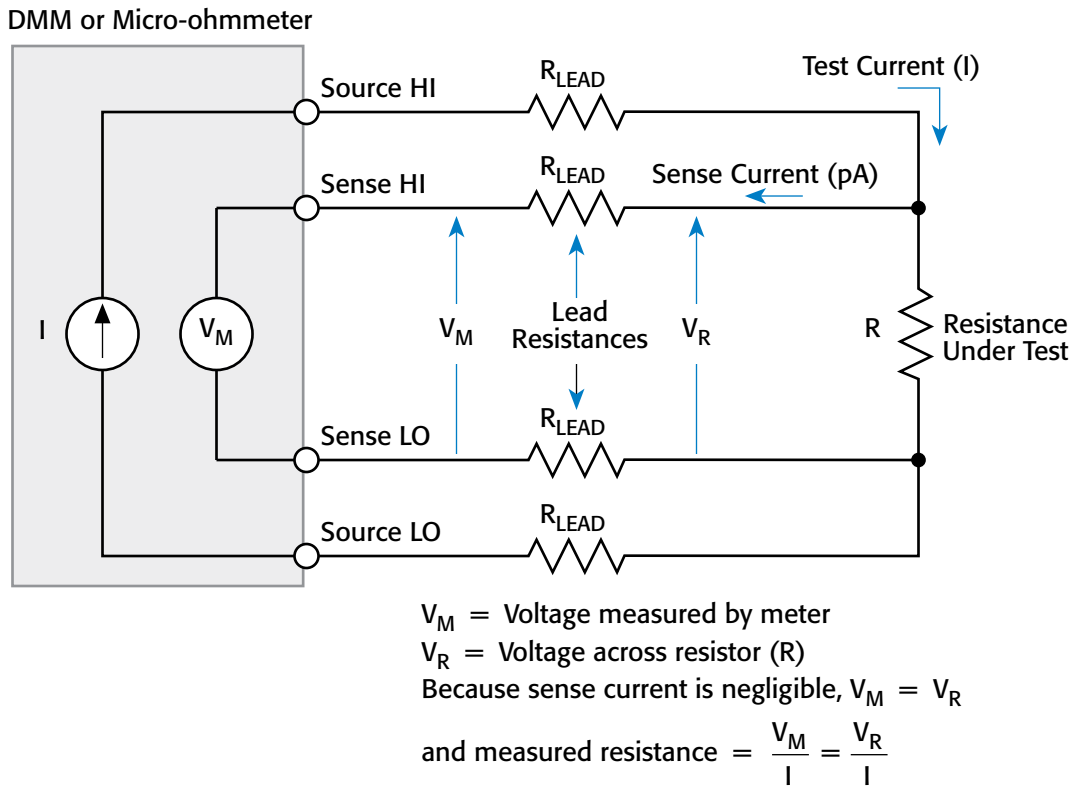

Figure 2.
The four-wire (or Kelvin) connection method (**Figure 2**) is generally preferable for low-resistance measurements. Here, the test current (I) is forced through the test resistance (R) through one set of test leads; the voltage (V_M) across the DUT is measured through a second set (the sense leads). The current that may flow through the sense leads is generally small enough to ignore and is not in the voltage measurement portion of the circuit. The voltage drop across the sense leads is also negligible, so the voltage measured by the meter (V_M) is essentially the same as the voltage (V_R) across the resistance (R). As a result, the resistance can be determined with much greater accuracy. Connect the voltage-sensing leads as close to the resistor under test as possible to avoid including their resistance in the measurement.